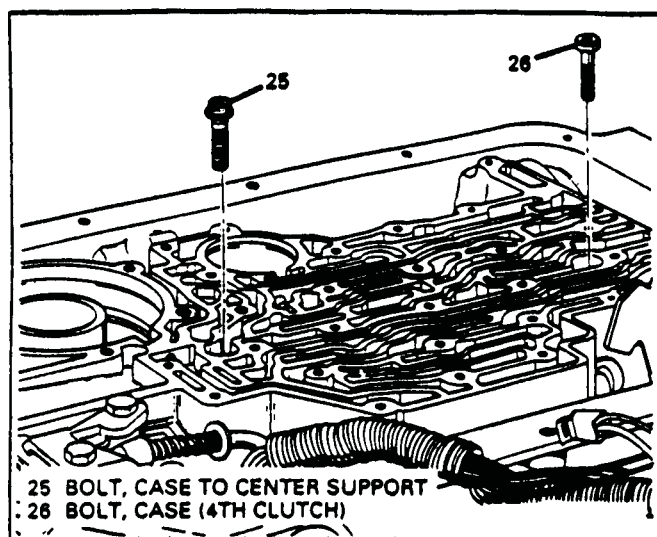

Figure 54
12. Remove the center support bolt (25) from the location shown in Figure 54.